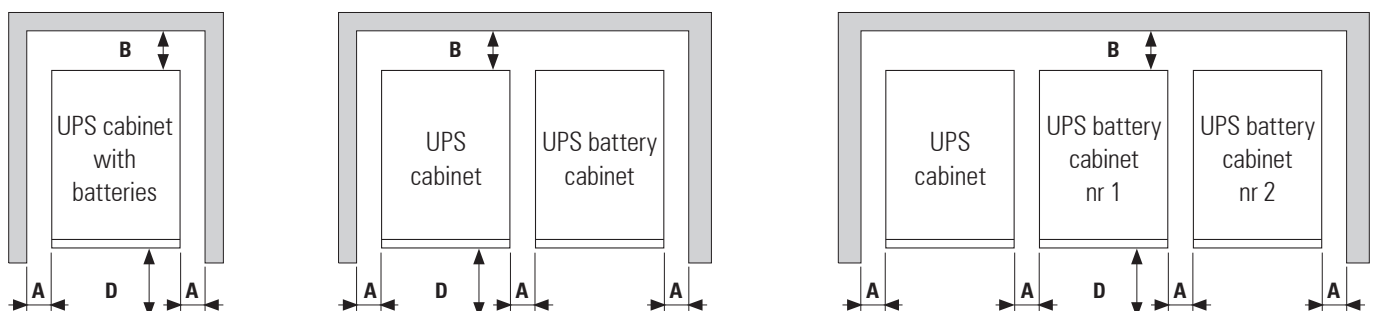

Fig. 30. Minimum peripheral dimension lines for UPS cooling.
- As i.e. Fig. 30 shows two typical cases depending on the model. The one that is based on a single cabinet, UPS with batteries fitted in, and the one of the UPS with batteries in a separate cabinet or extended back up time.